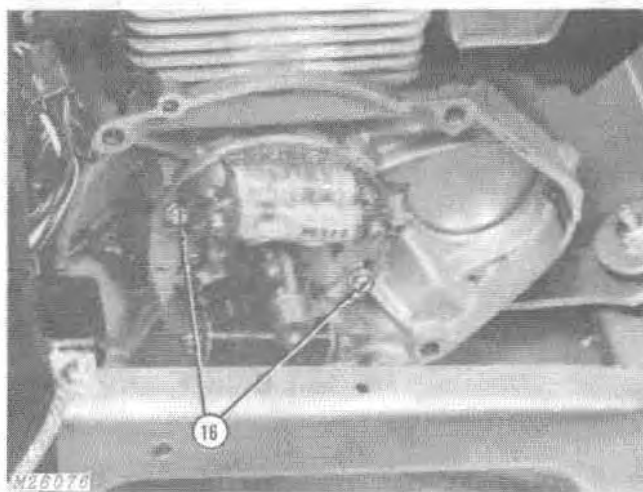

Fig. 20-Removing Stator
16. Remove stator screws, Fig. 20. Pull leads and grommet through crankcase.